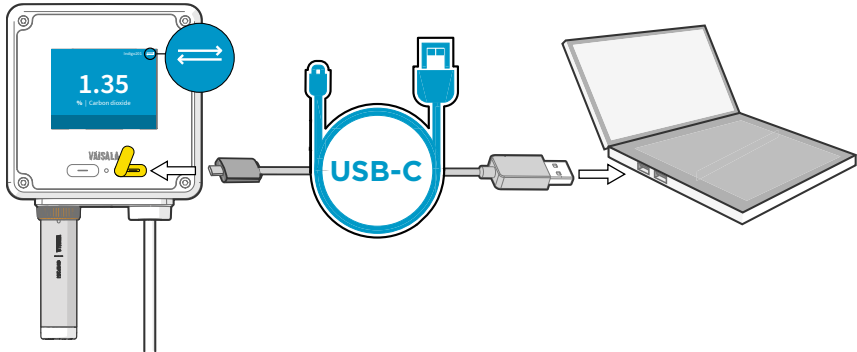

Figure 10 Connecting Indigo200 transmitter to Insight PC software with USB-C cable
5. In transmitter models with a display, the USB connection icon (see Figure 10 \(page 23\)) appears on the top right corner of the transmitter display when the USB cable connection is active.